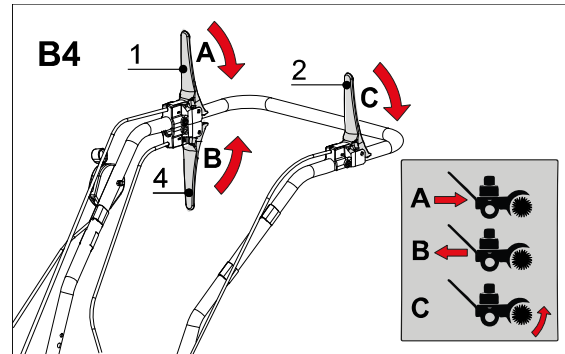

Fig. B4 Driving the machine
12.5 Driving the machine (Figure B4)